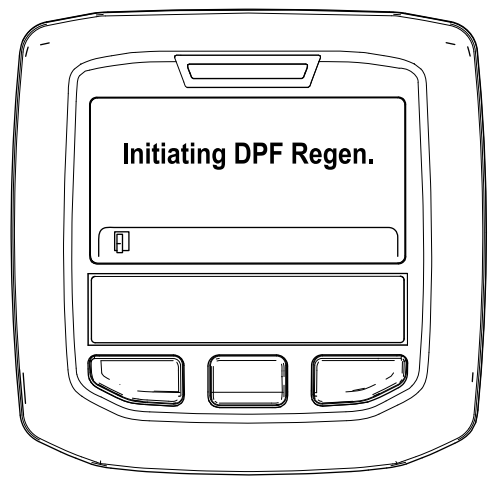

Figure 49
- A. The "Initiating DPF Regen." message displays (Figure 49).